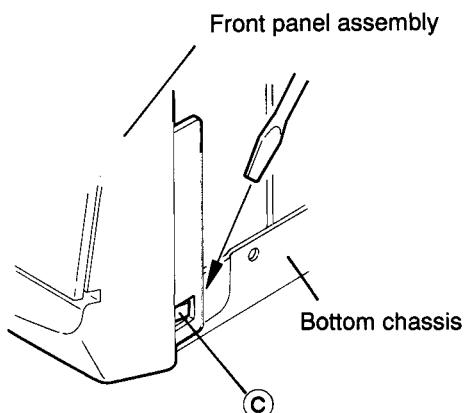

Fig.5-6
4. Use a screwdriver, etc., to disengage clips ⑥ and ⑦ from the side panels of the main unit.(See Figs. 5-6, 5-7)